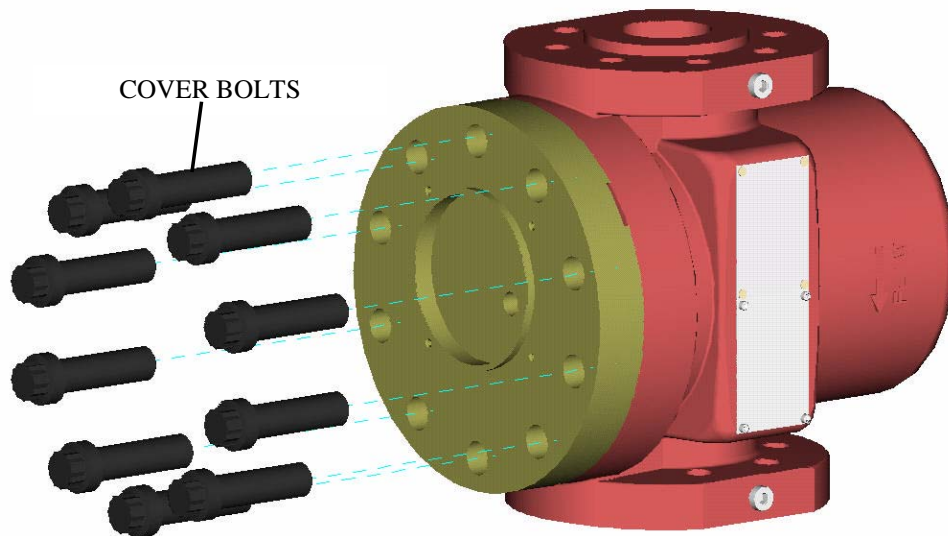

Figure 2. Meter Cover Bolts.
4. Loosen the 10 cover bolts (ferry head) using the ¾" impact socket. Remove from the meter. Reference Figure 2.